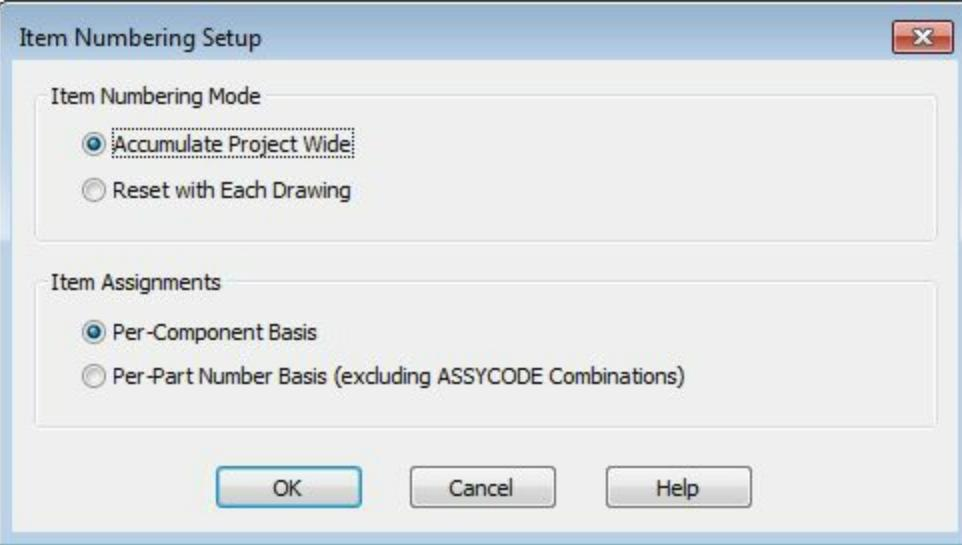

Figure-16. Item Numbering Setup dialog box
- Click on the **Item Numbering** button to setup the item numbering mode for the current project. On clicking this button, the **Item Numbering Setup** dialog box is displayed; refer to Figure-16. If the **Accumulate Project Wide** radio button is selected in the **Item Numbering Mode** area of the dialog box then the item numbering continues from one drawing to another drawing in the project. If you select the **Reset with Each Drawing** radio button then the numbering restarts from **1** in the each drawing with its respective suffix/prefix.